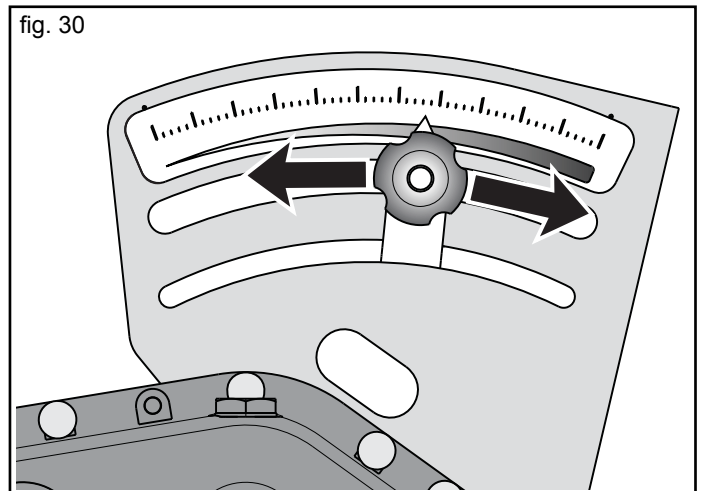

fig. 30
- 7) ... and bring the graded indicator to the required position (depending on the quantity of product to be distributed), by rotating the adjuster knob (Fig. 30).